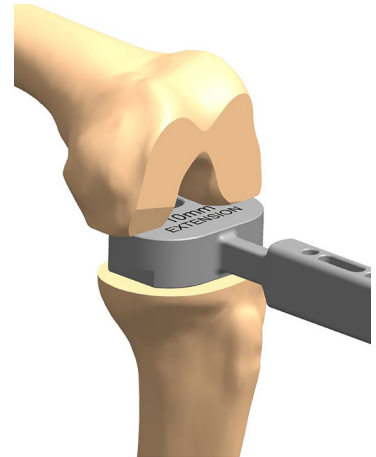

Figure 31
1. The 10mm end of the Extension Spacer Block should easily insert into the flexion gap in 105° of flexion (due to 15° posterior cut) (Figure 31).